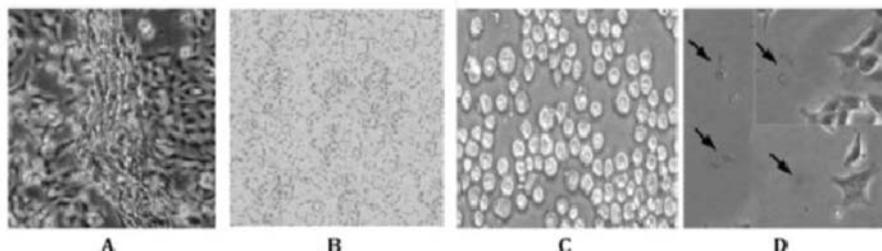

Figure 1
1. From the microscope images in Figure 1, above, identify insect cells.
2. From the microscope images in Figure 1, above, identify bacterial cells.